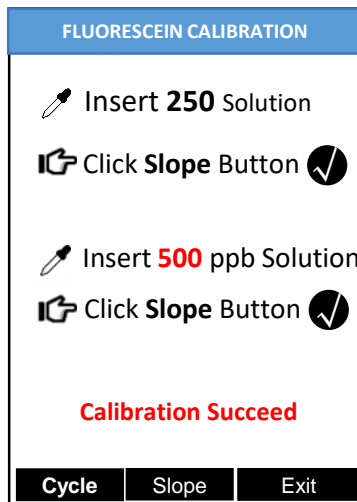

Figure 10
- 16) If calibration is successful, the screen will update with a fourth checkmark for the Slope setting as in Fig. 10, and the message Calibration Succeed will appear.